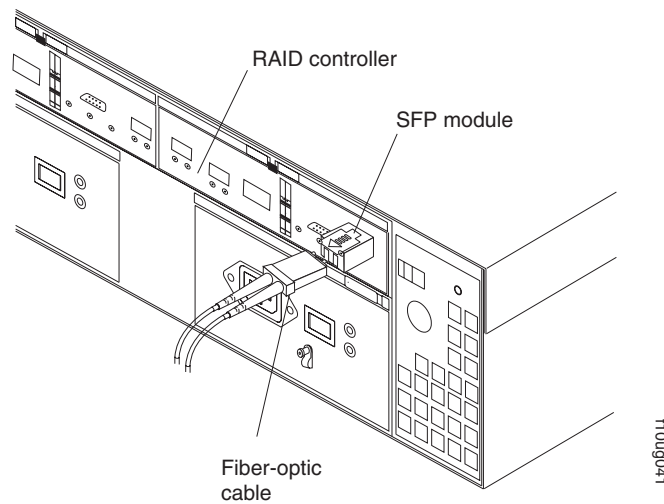

Figure 70. Location of SFPs and fiber-optic cables
4. From the RAID controller that has failed, remove the fibre-channel cables from the SFPs. The location of these components is shown in Figure 70.